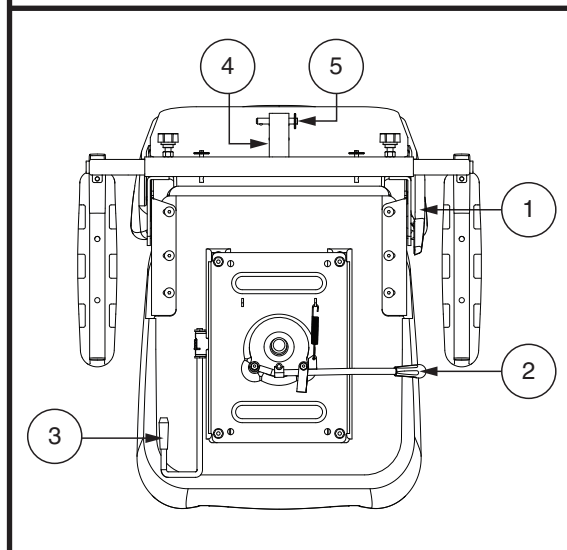

Figure 22. Seat Adjustments – Style B
If your scooter is equipped with a reclining seatback, you can adjust the seatback angle with the seatback adjustment lever. See figure 22.
1. Move the seat sliding lever (located at the lower left side of the seat) outward. See figure 22.
Armrest angle of your scooter can be adjusted upwards or downwards by turning the adjustment. See figure 22.
The rear-mounted accessory bracket allows you to attach a personal accessory such as a basket, walker holder, or oxygen tank to the back of your scooter. Utilize the detent pin to securely mount your item to the accessory bracket. See figure 22. See your authorized Provider for details.